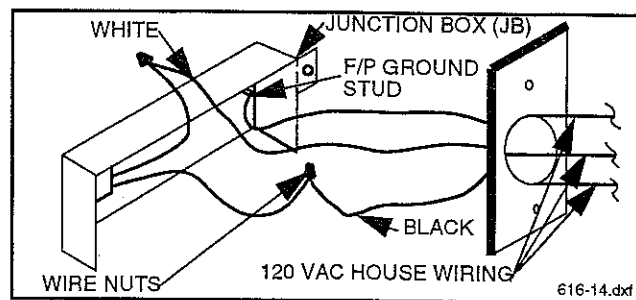

Fig. 14. Wiring diagram.
Using pliers, remove the nut from the grounding stud in the junction box and attach the green ground wire from the house power. Reinstall the nut securely. (See Fig. 14.)
Attach the white wire from house power to one (1) wire of the receptacle and secure within a wire nut. Attach the black wire from the house power to the other wire of the receptacle and secure within a wire nut. (See Fig. 14.)